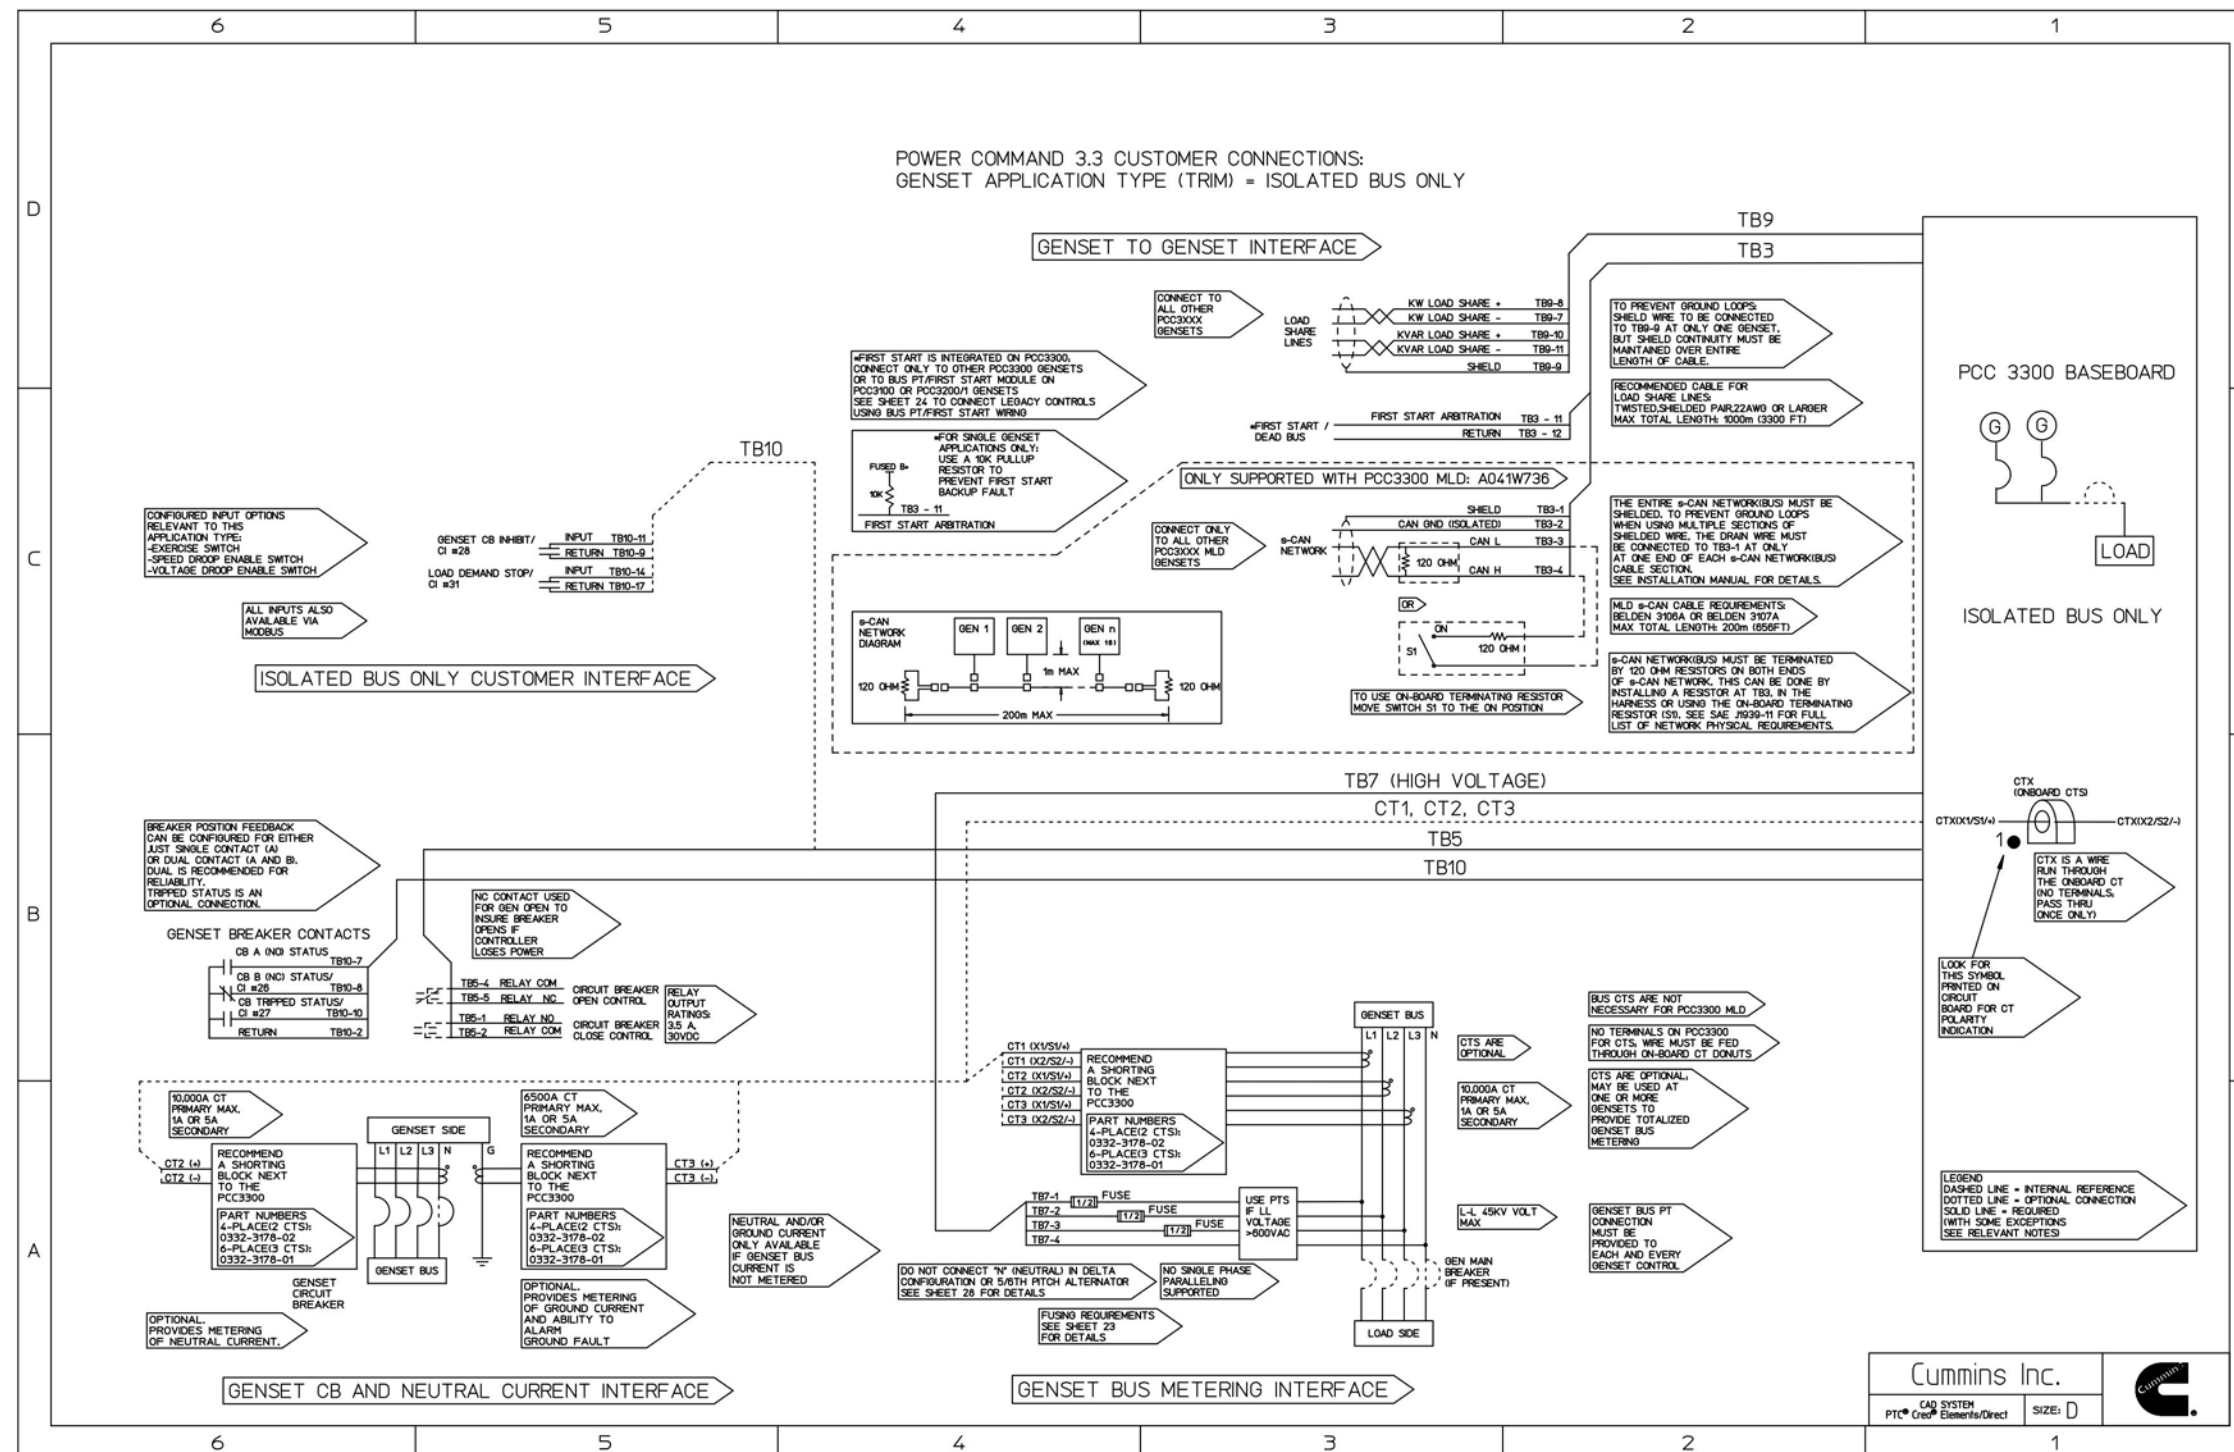

FIGURE 56. POWERCOMMAND 3.3 PARALLELING CONNECTIONS - ISOLATED BUS ONLY
- Figure 56. PowerCommand 3.3 Paralleling Connections - Isolated Bus Only 119